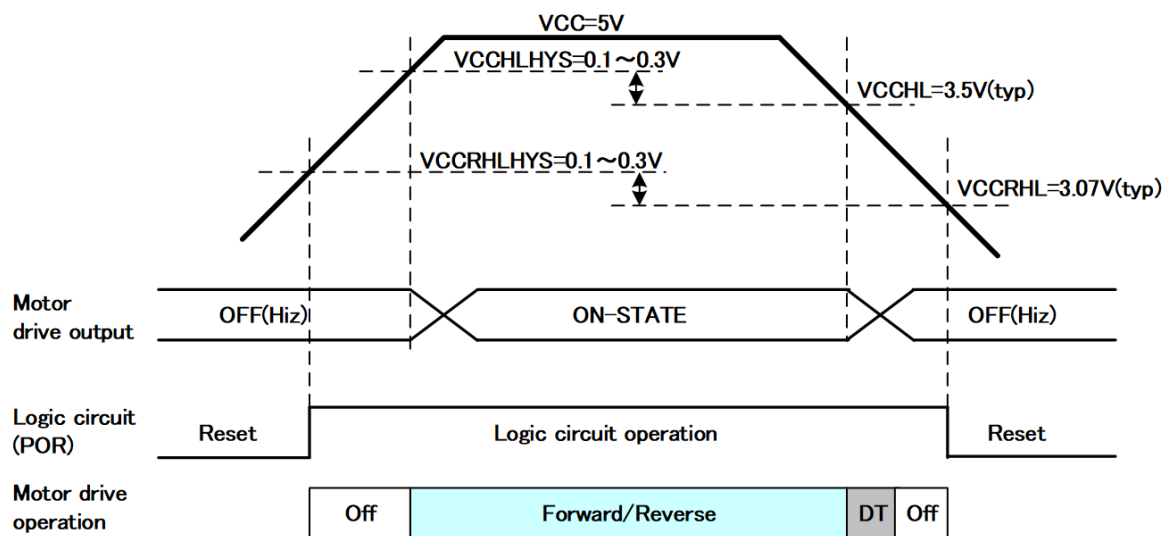
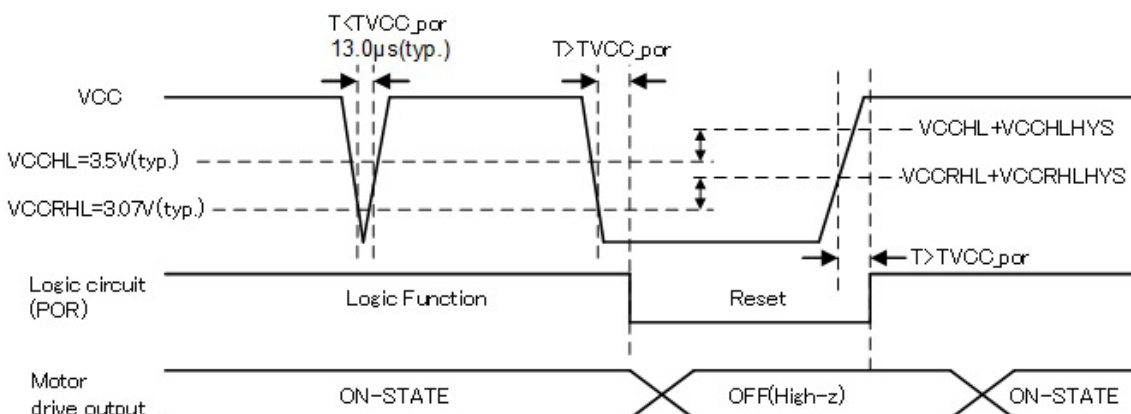

Figure 7.37 VCC under-voltage detection and POR threshold characteristics
Figure 7.39 VCC under-voltage POR timing chart 1
7.13.2. VCC under-voltage detection circuit (see Figure 7.37 to Figure 7.39)